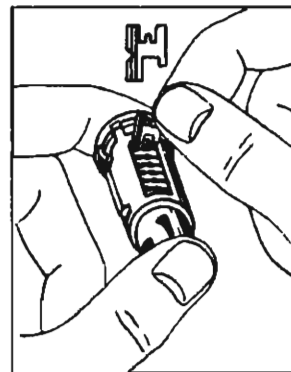

Fig. 12—Inserting Tumblers
1. Hold cylinder with head of cylinder away and starting at the head of the cylinder, insert the tumblers in their proper slots in the order called for by the code, ribbed side toward you and long point down (fig. 12).